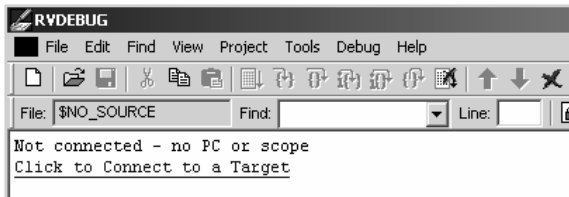

FIGURE 4 RealView Debugger’s opening screen (upper left corner).
1. Start RealView Debugger and select the Click to Connect to Target (Figure 4) or the File | Connection | Connect to Target menu option.